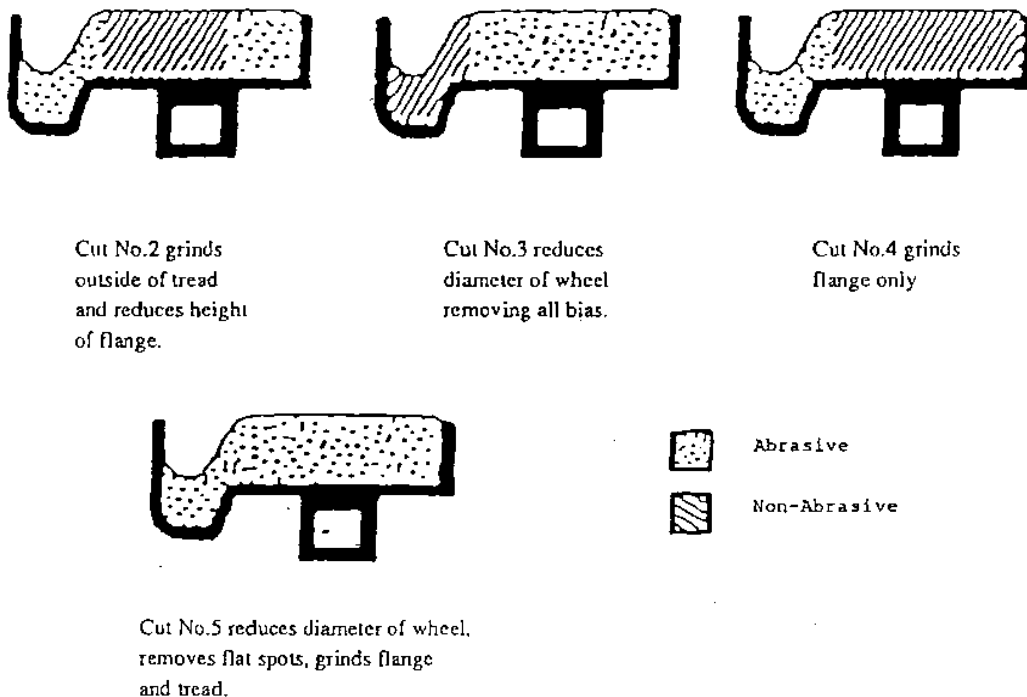

Figure 1 – Cut information
- c) Select the appropriate brake block form number for the work to be done, whether it is on tread (Cut No. 3 for wheel flats, scale and spalling), or the flange (Cut No. 4 for arrisses), as illustrated in Figure 1.